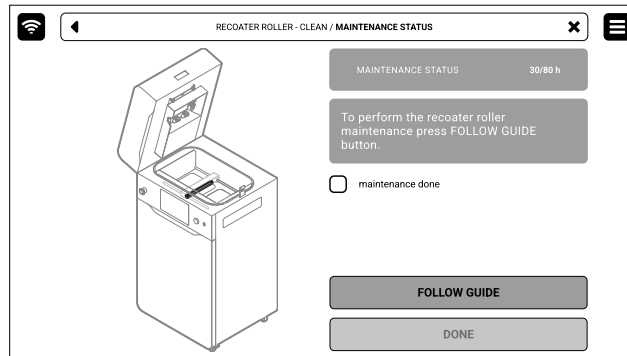

Fig. 13.92 The maintenance screen for cleaning the recoater roller.
3. In this case, mark **MAINTENANCE DONE** once you have completed the procedure, and then the **DONE** button. The timer will reset to zero (fig. 13.92).